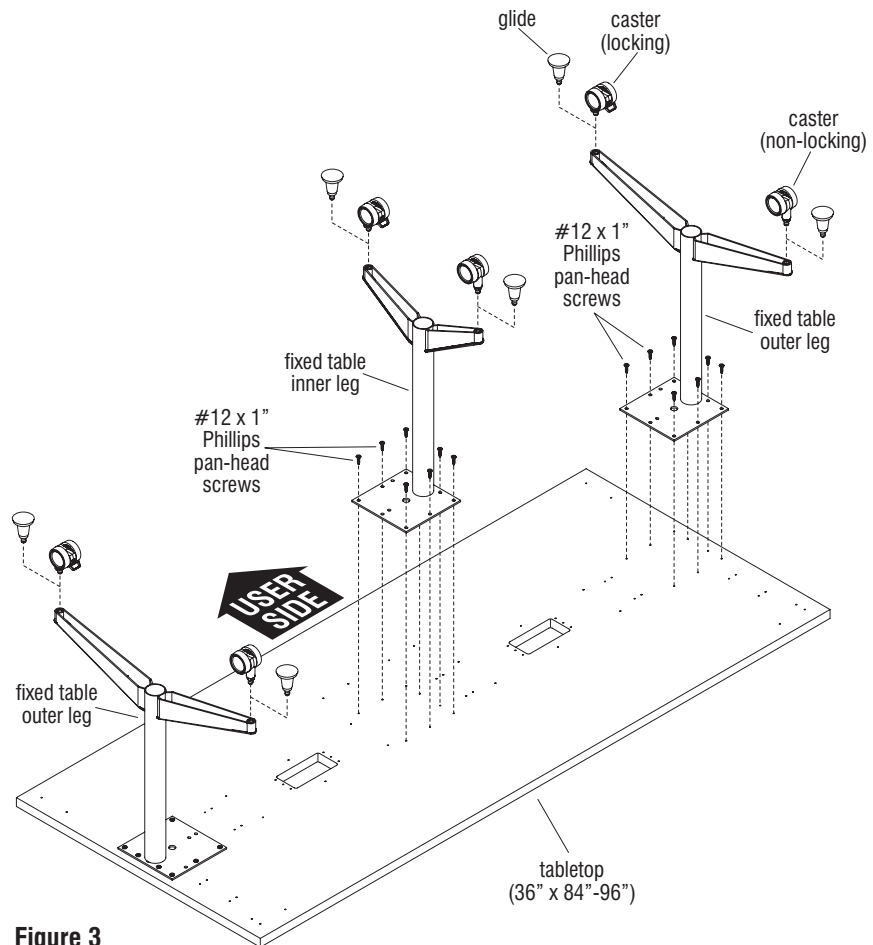

Figure 3
2. Place tabletop upside down on a soft, protective surface. Tables 36" x 84"-96" require a fixed table inner leg installed to the underside of the tabletop to insure stability. If tabletop is 36" x 84"-96", position fixed table inner leg onto the center of the tabletop underside, aligning the leg mounting holes with the pre-drilled holes in the table. Secure leg to top using #12 x 1" screws through the eight leg mounting holes as illustrated (Figure 3).
3. Position each fixed table outer leg over pre-drilled mounting holes in the underside of the table as illustrated. Secure the table legs to the top using eight #12 x 1" screws through each leg mounting plate (Figure 3).
4. Locking and non-locking casters are provided. Locking casters are to be installed to the front, user-side of each leg and non-locking casters should be installed to the rear of each leg. Use a 19 mm open end wrench to tighten casters to the foot of each leg (Figure 3).
5. To attach glides, thread stem into bottom of leg by hand (Figure 3).